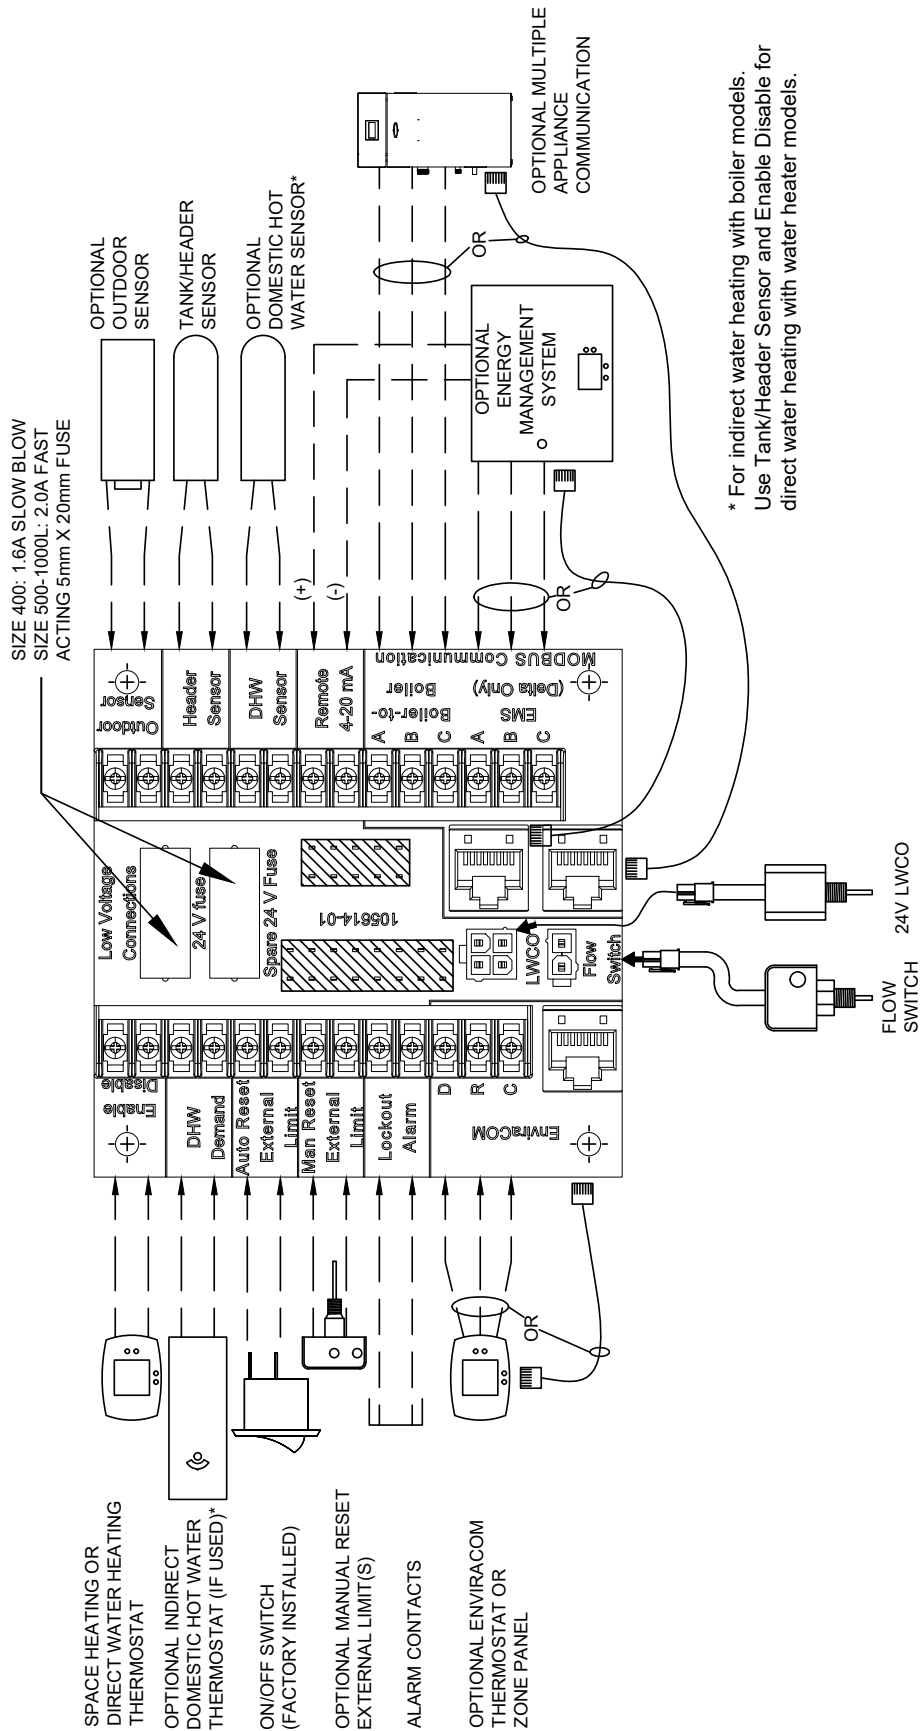

Figure 22: Low Voltage Connections PCB
- a. Low voltage PCB has connections for the tank sensor, external limits, Alarm, 4-20 mA, etc. One 24V fuse and spare are provided. See Figure 22.